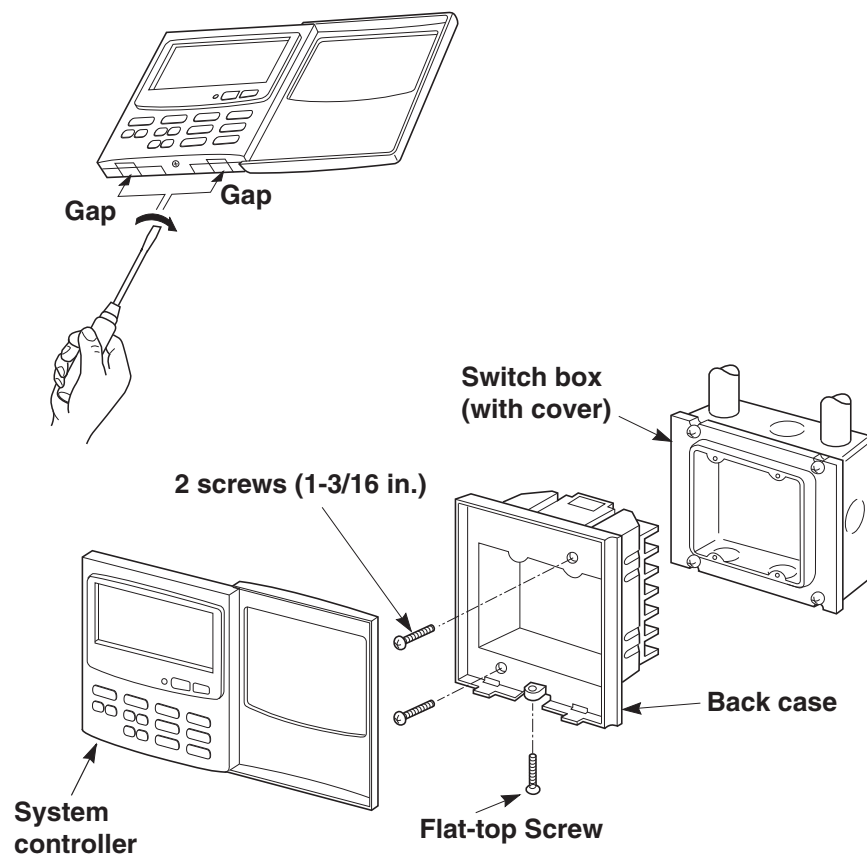

Fig. 1
- (1) Remove the flat-top screw on the bottom of the back case. When you open up the decorative cover, you will see two notches under the controller. Inset a coin or other flat object into these notches and pry off the back case. (Fig.1)
- (2) Connect the wires to terminal base of the system controller (see next page).
- (3) Attach the back case with the 2 screws (1-3/16 in.) provided.
- (4) To finish, fit the back tabs of the back case into the system controller and mount it using the flat-top screw.